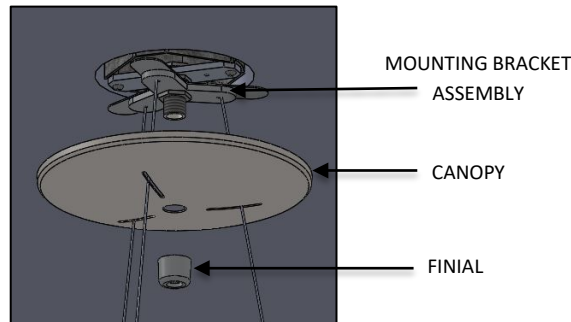

FIG. 28 – CANOPY DISASSEMBLY
7. Once the GLOWRING BODY is secured to the AIRCRAFT CABLE (3) at the GRIPLOCK (3) Unthread the FINIAL from the MOUNTING BRACKET ASSEMBLY and lower the CANOPY as shown below in FIG. 28.